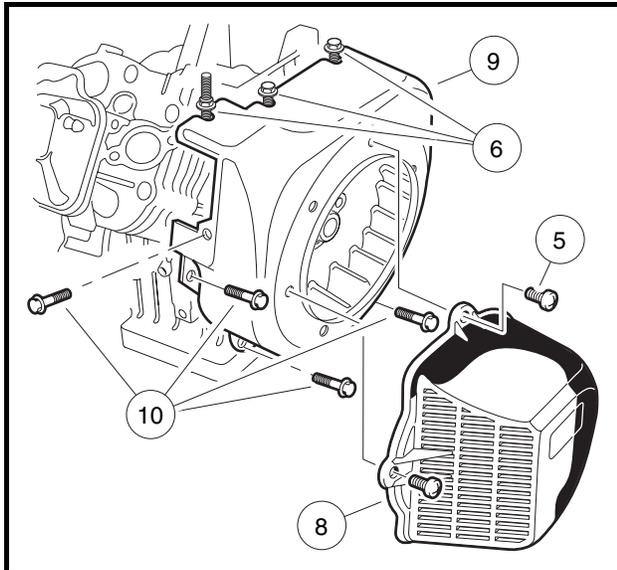

Figure 12-27 Fan Housing and Shroud Installation
7. Remove the pan-head bolts (5) securing the fan shroud (8) to the fan housing (9) (Figure 12-27, Page 12-26).
8. Loosen, but do not remove, the three bolts (6) attaching the fan housing as shown (Figure 12-27, Page 12-26).
9. Remove the remaining four bolts (10) attaching the fan housing as shown (Figure 12-27, Page 12-26), then while opening the housing, detach the spark plug wire grommet (4) from the housing (Figure 12-29, Page 12-27).
14. Install the four remaining flange bolts that secure the fan housing to the engine crankcase. Tighten all seven mounting bolts to 90 in-lb (10.2 N·m) (**Figure 12-27, Page 12-26**).
16. Install the fan shroud with four pan-head bolts (5). Tighten to 50 in-lb (5.7 N·m) (**Figure 12-27, Page 12-26**).